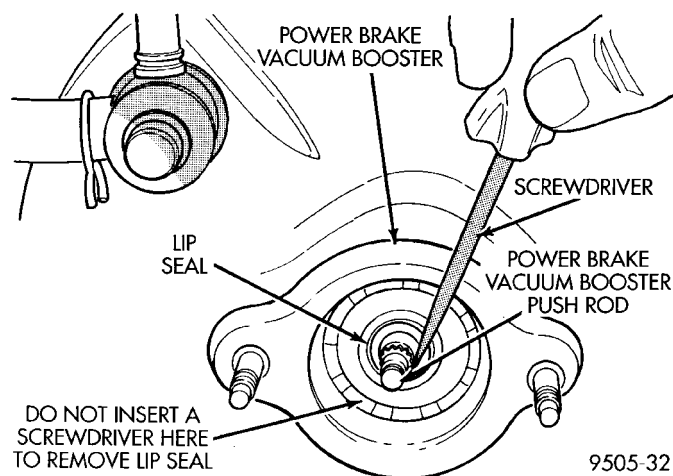

Fig. 19 Removing Vacuum Seal From Vacuum Booster
(10) Remove vacuum seal (Fig. 19) located in the front of the power brake vacuum booster. Vacuum seal is removed by **carefully** inserting a small screw driver between the push rod of the power brake vacuum booster and vacuum seal (Fig. 19) and pry seal out of power brake vacuum booster. **Do not attempt to pry seal out of master cylinder by inserting a tool between seal and power brake vacuum booster.**